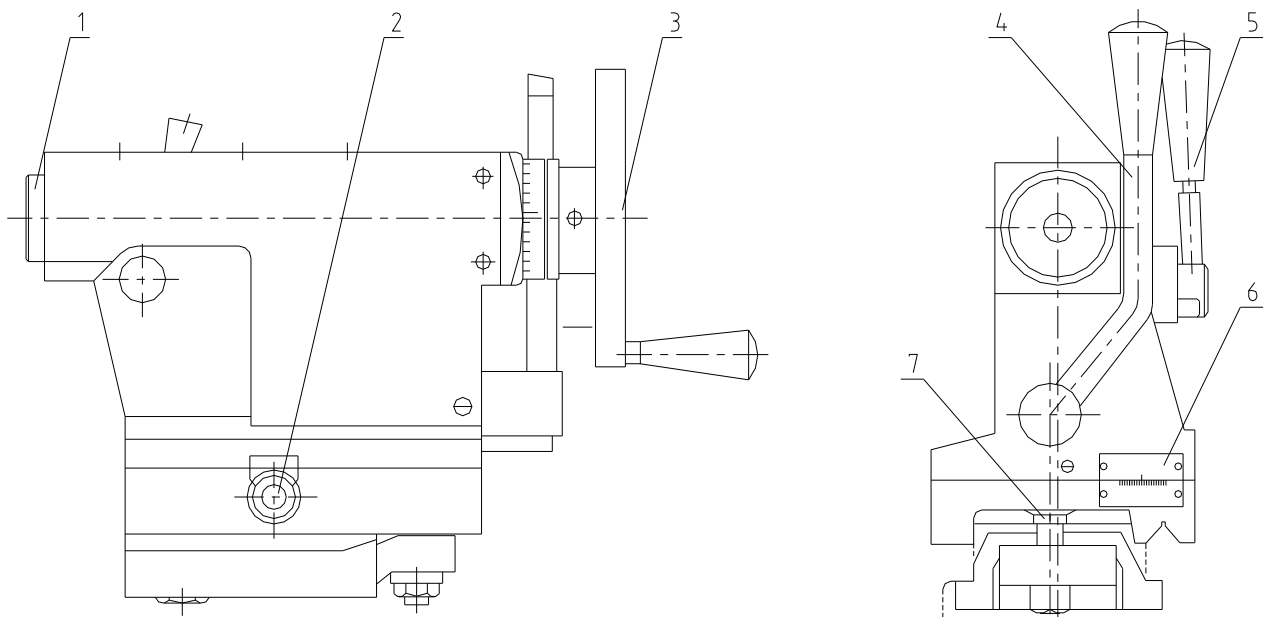

Fig.6-9. Tailstock sidwise displacement
6.2.7 TAILSTOCK SIDE DISPLACEMENT (See Fig.6-9 and Fig.6-10)